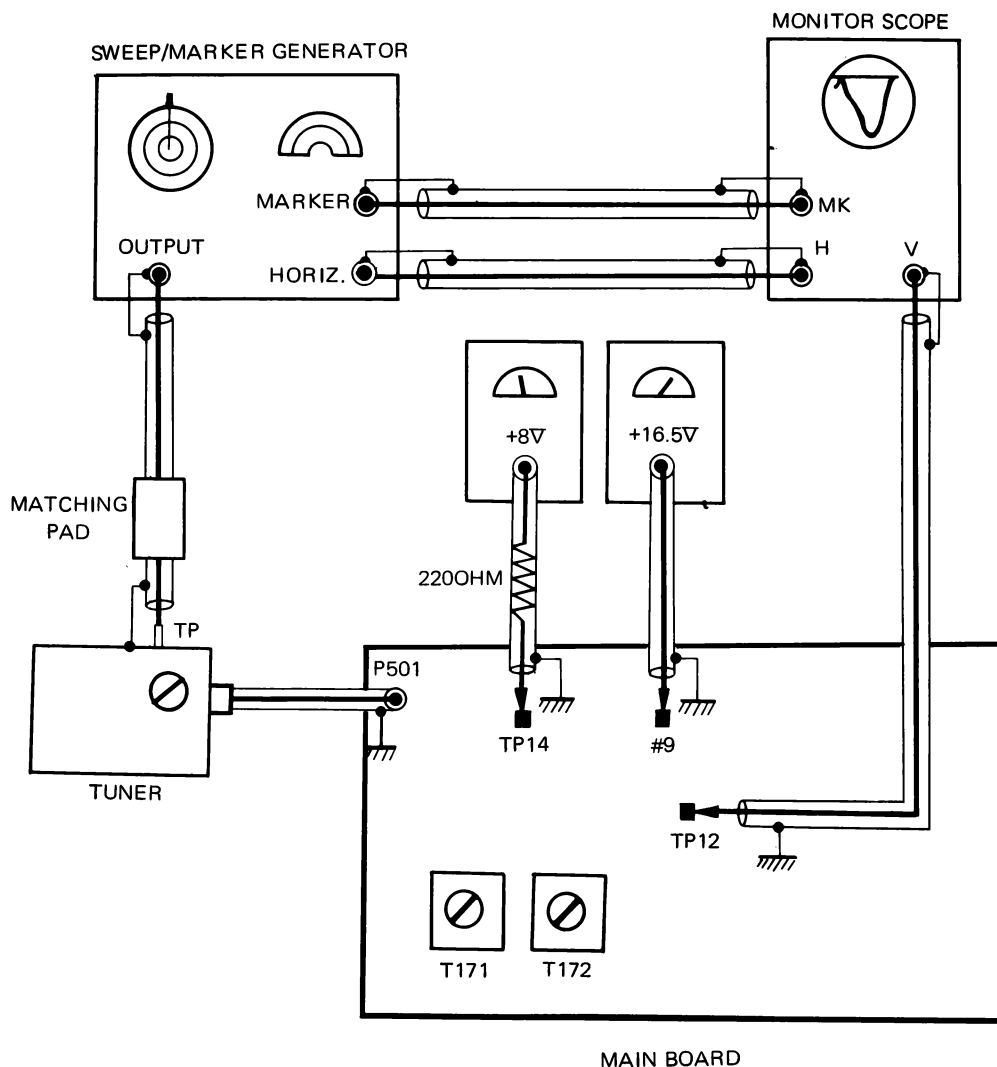

Figure 23. Magnified Response Alignment
- GENERAL** Refer to figure 23 and 25 for test equipment connection and alignment points.